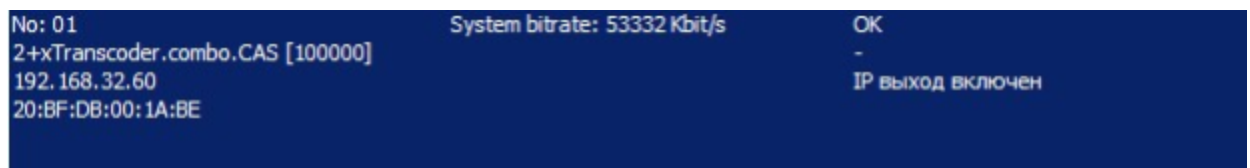

Fig. 3.10
2. Click OK and wait while the device switches from the "Encoder" to "Transcoder" mode. You can see the progress in the status bar of the DVBToolkit (Fig.3.10). Wait until the color of the device in the system becomes green.